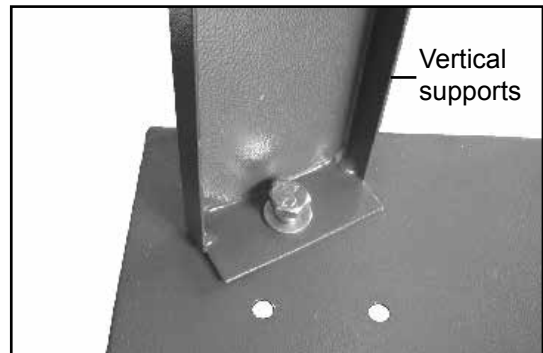

Fig. 04
2. Place a washer onto a hex bolt and insert into the bottom hole of the vertical support and into the threaded hole in the base (Fig. 04).